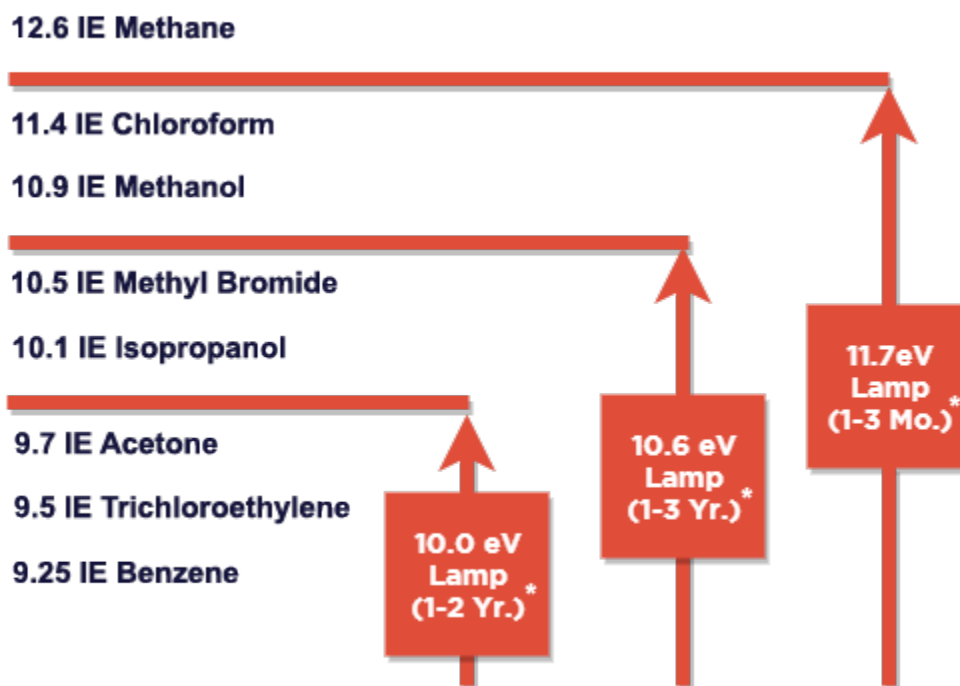

Figure 2: PID lamp energy thresholds
Typically, three lamps are available with maximum photon energies, measured in electron-volts (eV), of 10.0 eV, 10.6 eV, and 11.7 eV. Figure 2 illustrates that a lamp can only detect those compounds with ionization energies (IE) equal to or below that of the lamp. Thus, a 10.6 eV lamp can measure Methyl Bromide with an IE of 10.5 eV and all compounds with a lower IE, but cannot detect methanol or compounds with a higher IE.
Benzene has a low IE value as shown in Figure 2 and it is often present in a 'cocktail' of other chemicals including aromatics and aliphatics. Using a proprietary 10.0 eV lamp means that only the aromatics are detected (amongst other gasses that may be present) and should the total aromatic compounds (TACs) be above the regulatory limit, a benzene pre-filter tube can be used to provide a more accurate reading on benzene specifically.